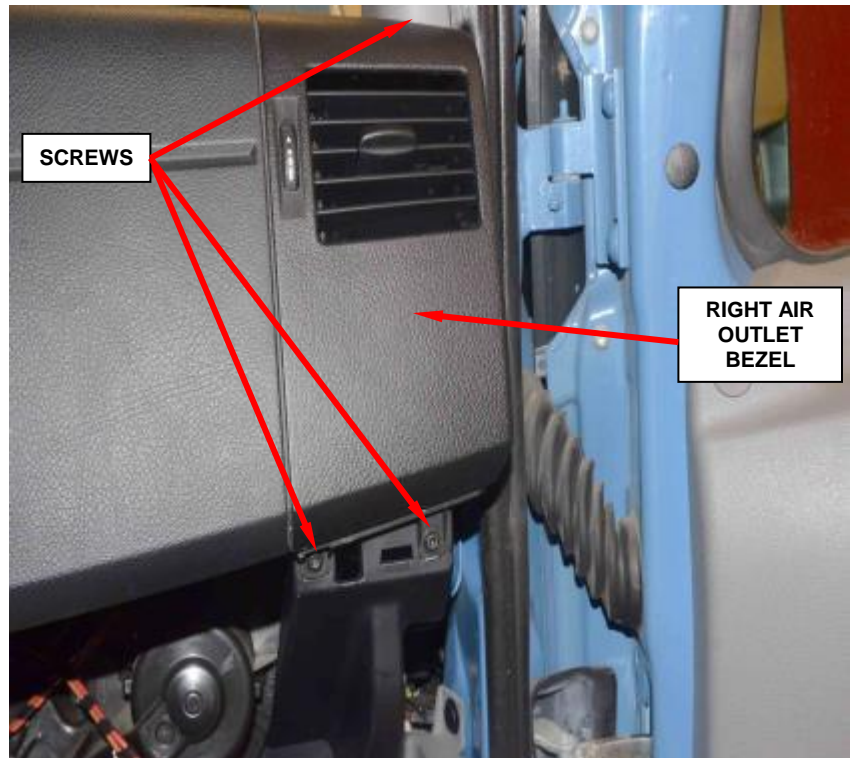

Figure 7 – Right Air Outlet Bezel
10. Remove and save the three right side air outlet bezel screws and remove the right air outlet bezel (Figure 7).
34. Position the right air outlet bezel to the instrument panel and install the three screws. Tighten the screws securely (Figure 7).